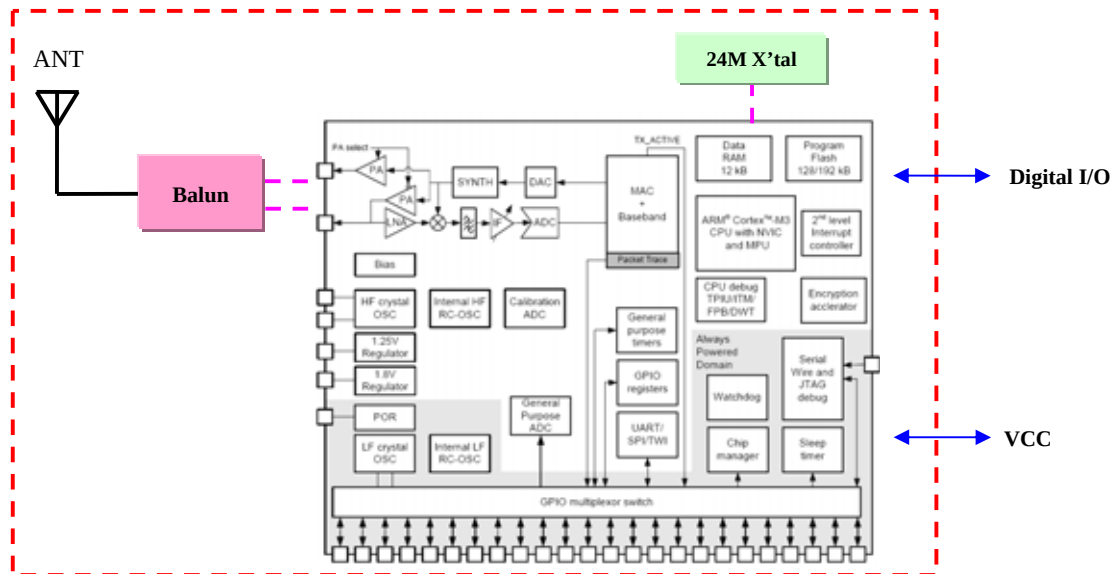

Figure 3-1: DFZM-E722x Block Diagram
- o The low power module option has a capability of +8dBm output power at the antenna (see Figure 3-1).